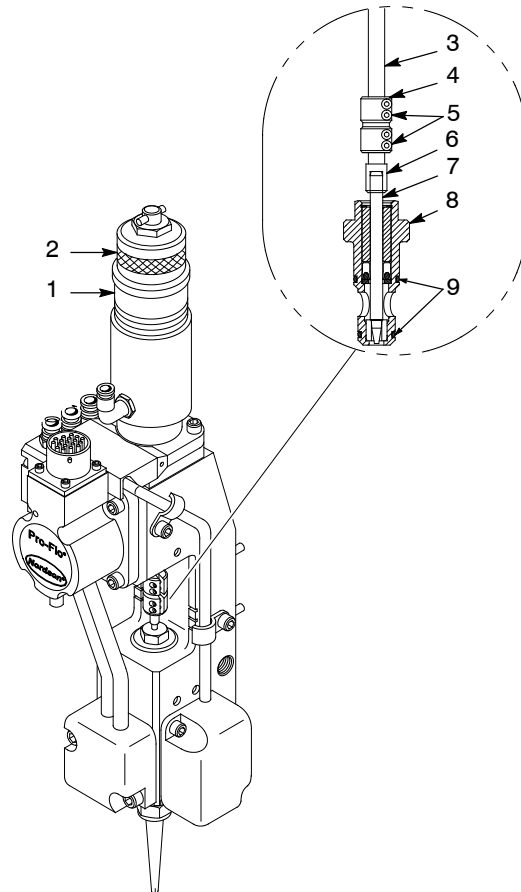

Figure 7 Replacing a Trimset Cartridge
4. See Figure 7. Unscrew the knurled cap (2) to reveal the entire yellow band (1) and until the threads are fully disengaged. Be careful not to let the spring closure assembly come off the gun.
5. Using a 2.5-mm hex key, loosen but do not remove the four clamp screws (5) in the coupling (4).
6. Slide the coupling and upper shaft (3) all the way up until they both bottom out in the actuator frame.
7. Using a $\frac{5}{8}$ open-end wrench, loosen and remove the trimset cartridge (8) from the lower portion of the gun body.
1. See Figure 7. Lightly lubricate all external O-rings on the trimset cartridge (8) with O-ring lubricant.